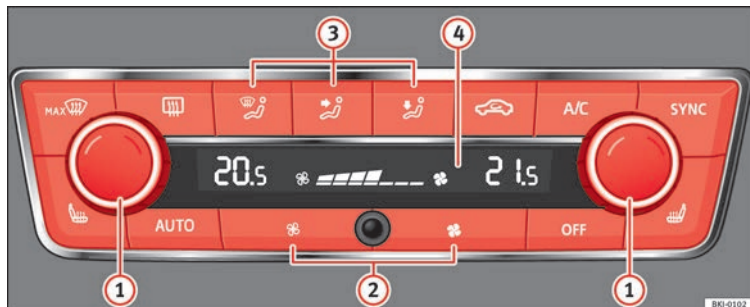

Fig. 176 Climatronic: controls.
- Adjust fan power to zero » Fig. 176 ② or press the **OFF** button.
- Press the button **AUTO** » Fig. 176.
- When you switch on the ignition, control  **>>> Fig. 176** can be used to set the required interior temperature.
- Press the button  **>>> Fig. 176**.